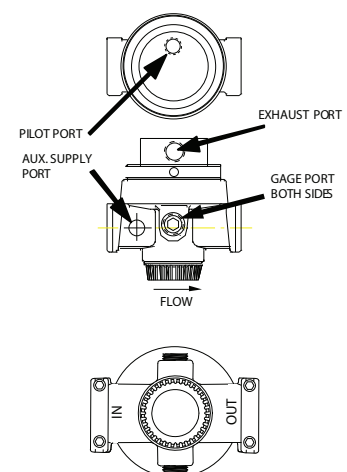

Figure 2
A. Proportion Air control valve & PSR volume booster ordered as an assembly: (Refer to figure 2 for port locations)
B. Proportion Air control valve & PSR volume booster NOT ordered as an assembly: (Refer to figure 2 for port locations)